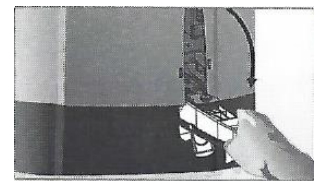

FIGURE 6
- Pull the manual release handle to disengage gearbox to allow gate to be moved manually. Fig 6